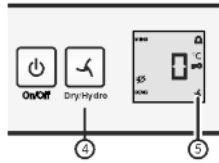

Fig. 3
▶ Setting **hydro**: Press the dry/hydro Fig. 3 (4) button until the  symbol appears. Release the button.
▷ The dry/hydro Fig. 3 (5) symbol lights up.
▶ Setting **dry**: Press the dry/hydro Fig. 3 (4) button until the  symbol goes out. Release the button.